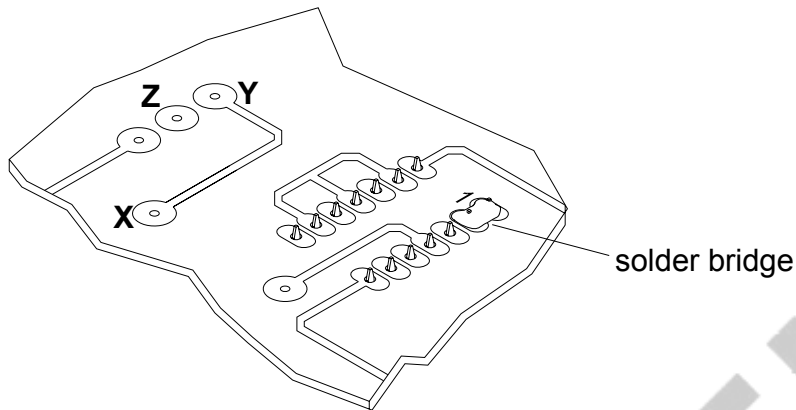

Fig.12
- (i) Fig. 12 shows a soldered joint that has bridged across two pads. Describe **one** method of removing the excess solder.
- (ii) A track between points X and Y can be seen in Fig. 12. The track is incorrectly positioned and the correct connection should be between X and Z. Give **two** stages in correcting the fault.